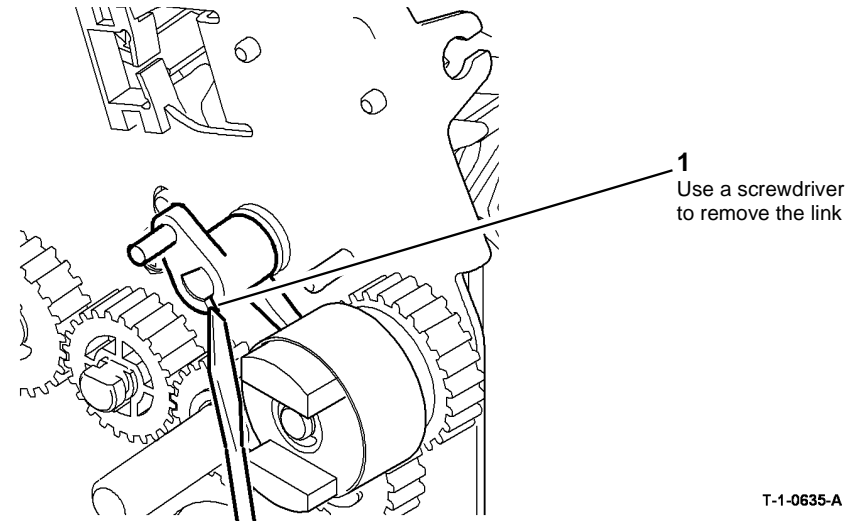

Figure 3 Inverter path solenoid link
- Remove the inverter path solenoid link, Figure 3.